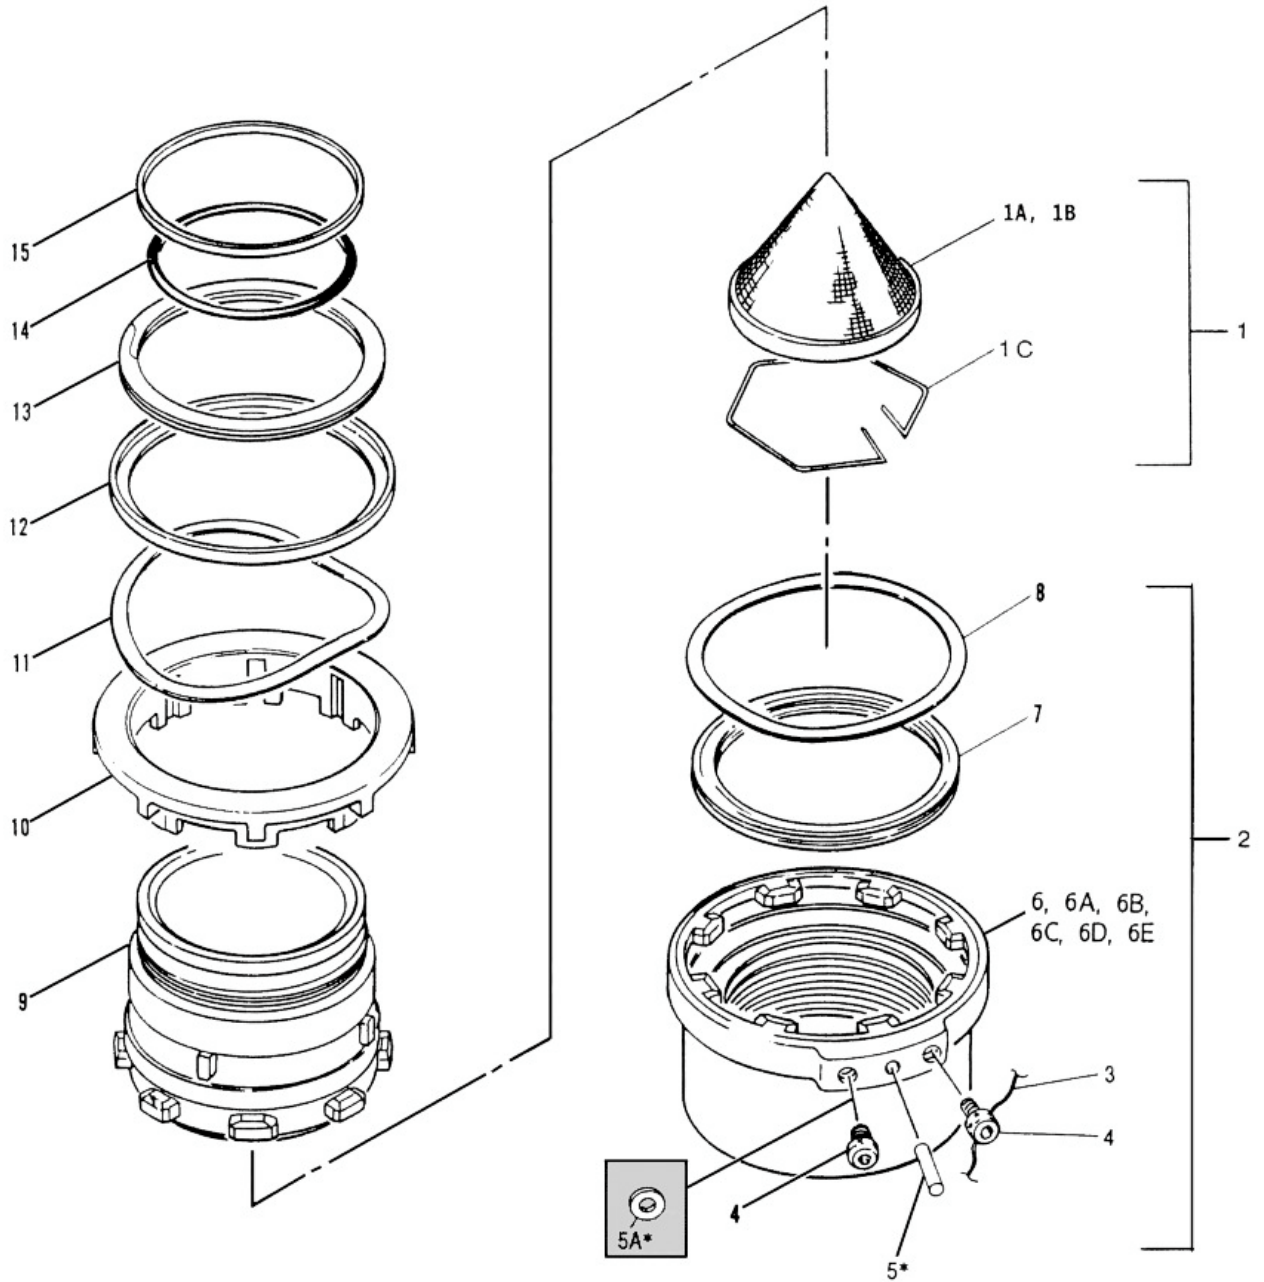

FIGURE 1
7.1 Reassemble in reverse order of disassembly (Refer to Figure 1), observing the following:
Table 1.0 tabulates the parts and sub-assemblies comprising the 44315-* Swivel Quick Disconnect Assembly and 44373-60 or -100 Screen Assemblies. The item numbers of the table are keyed to the exploded view of the Swivel Assembly diagrammed in Figure 1.